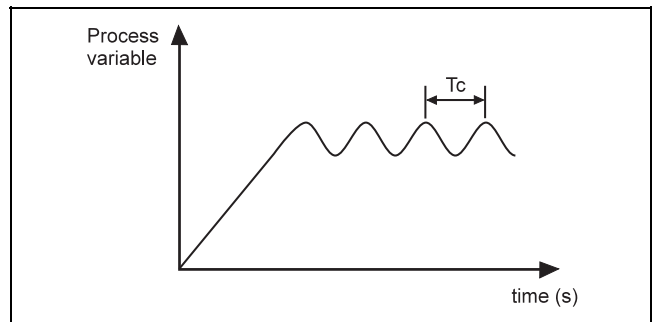

Fig. 5
4. Measure the period duration T_c of the oscillation in seconds (see fig. 5).